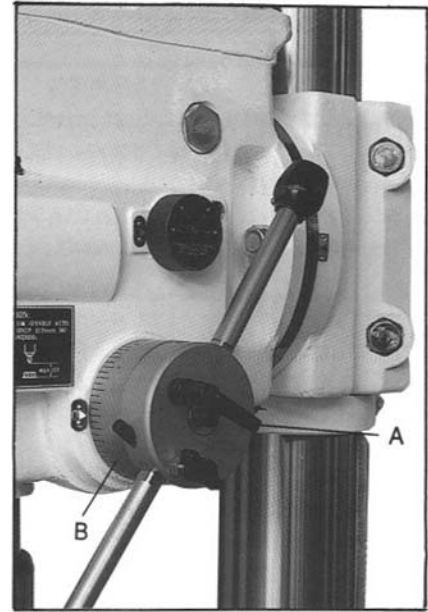

Figure 12
1. Loosen the depth stop lock handle (A, Figure 12).
3. With the other hand, turn the depth stop scale (B, Figure 12) counter-clockwise to zero.
4. Tighten the depth stop lock handle (A, Figure 12). The depth stop will now stop the drill at the pre-determined setting.
1. Loosen the depth stop lock handle (A, Figure 12) so that it does not interfere with the internal depth stop located on the front of the drill head.